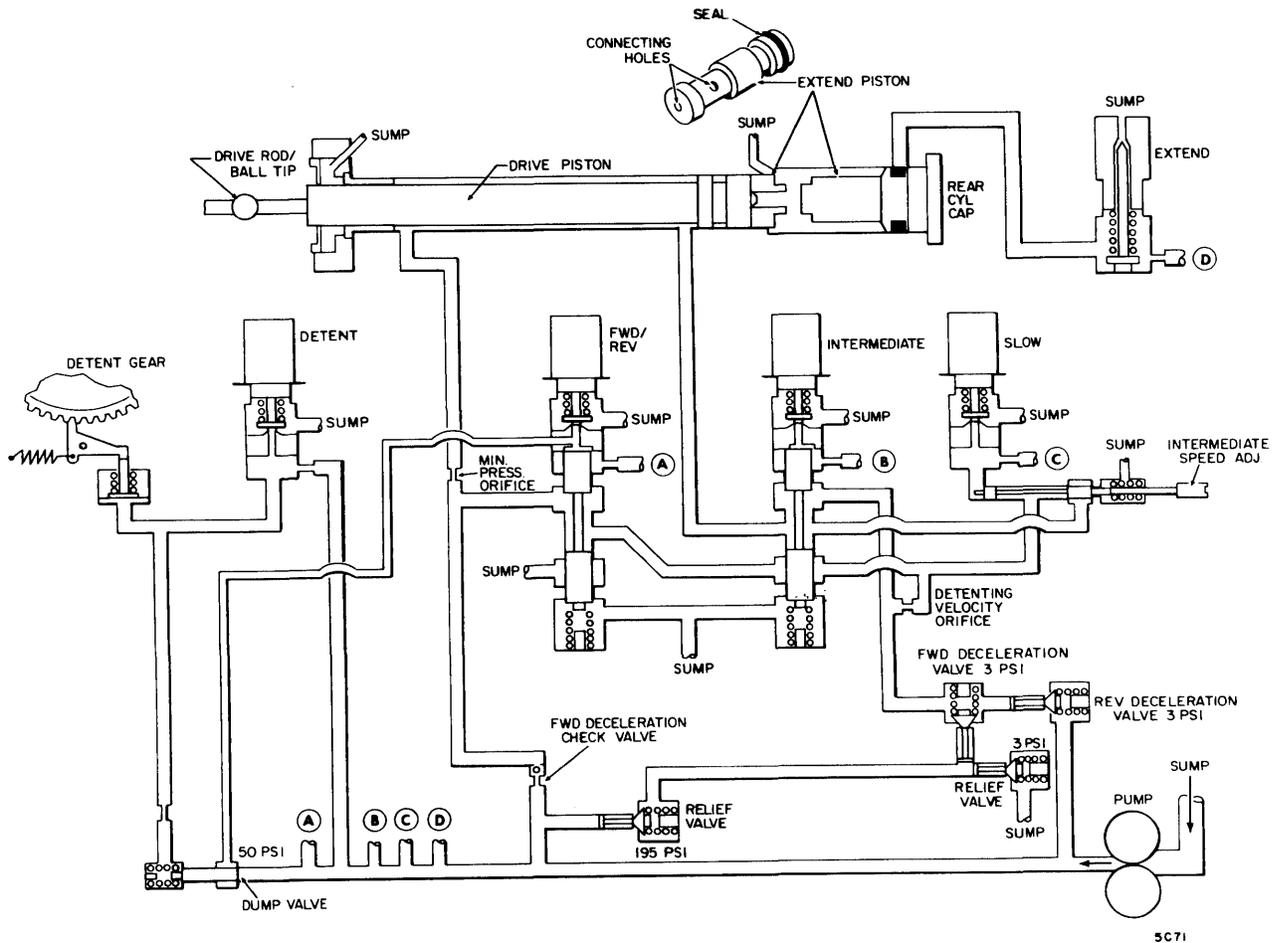

Figure 4-16. Hydraulic Actuator - Power Off
The hydraulic actuator (Figure 4-16) consists of a piston and sump block in or on which are mounted a valve block, two hydraulic fluid filters, an extend piston, a drive piston, and five solenoid and valve combinations.
Power Off (Figure 4-16)
3. De-energized extend solenoid vents pressure to sump. Extend piston stays in retracted position (Figure 4-16).